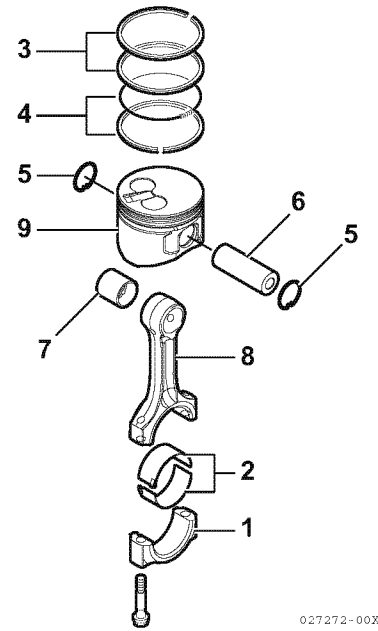

Figure 6-83
- Lubricate and install the wrist pin (**Figure 6-83, (6)**) through the piston and connecting rod.
- Install the second circlip (**Figure 6-83, (5)**) and ensure it is securely seated in the groove.